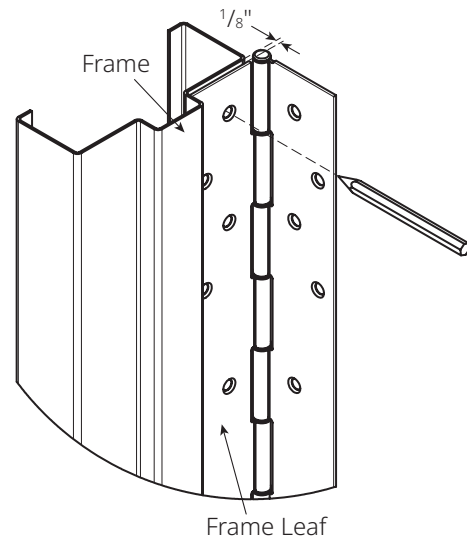

Figure 1
- Place hinge frame leaf on rabbet. Position top of hinge $\frac{1}{8}$ " maximum below header (Fig. 1 & 2).